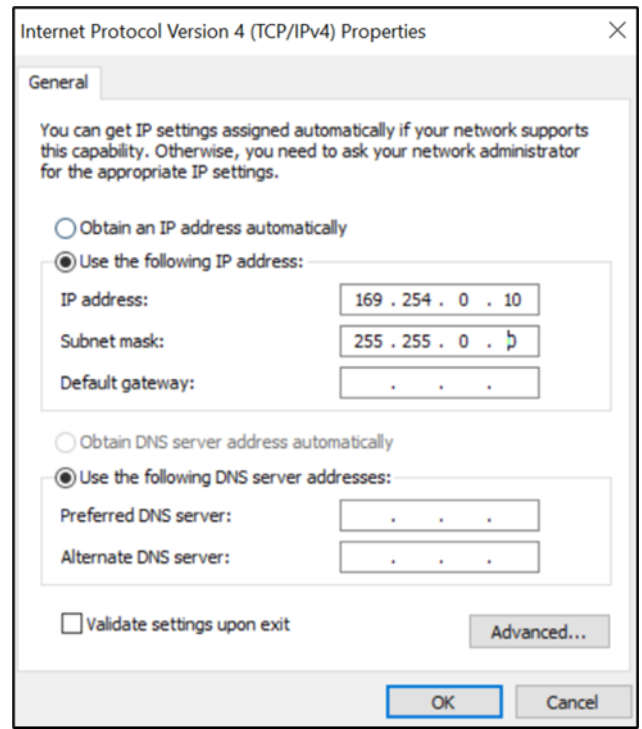

Figure 8: TCP/IPv4 configuration
Step 1: Select the radio button for Use the following IP address (**Figure 8**).
Note that the PC may lose Internet connection after the network settings have been changed. To revert to the default options, select the radio button to: **Obtain an IP address automatically** (**Figure 8**).